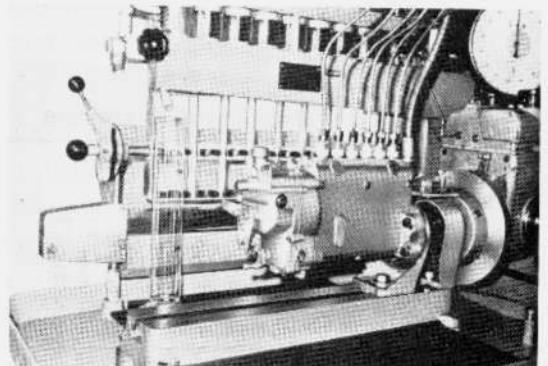

Fig. 3-184 Fuel Delivery Quantity Measurement
- When the governor adjustment is finalized, perform the minute adjustment in accordance with adjustment standard, utilizing the graduated cylinder (500 cc), and measure the fuel delivery quantity as per Fig. 3-184, and readjust by full load stopper.